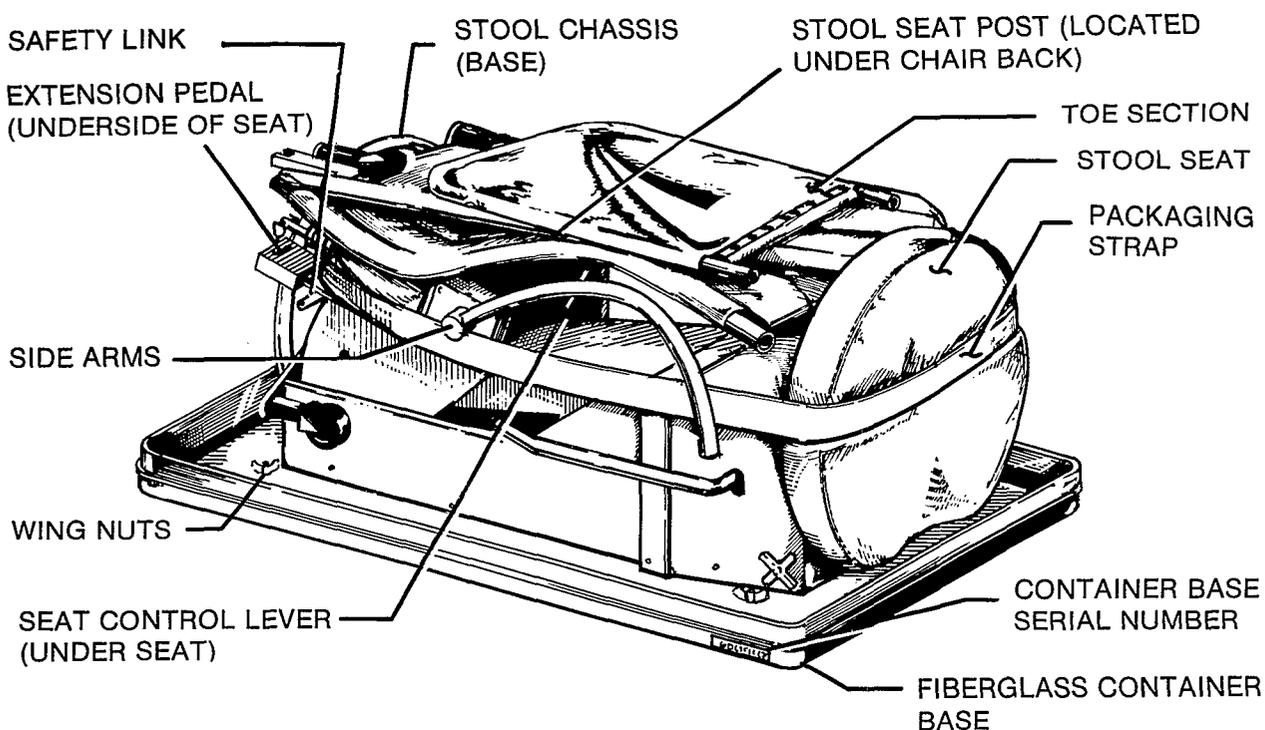

Figure 3. Packaged Position
### A. UNPACKING and ASSEMBLY (Refer to figures 3 and 4)
1. Release the ten (10) spring clamps on the exterior of the fiberglass container.
3. Remove the strap (figure 3) binding the stool seat and base to the chair.
5. Remove the chair toe section (figure 3) and install it in the end of the chair seat frame.
15. Remove the extension pedal from its clips under the chair seat frame and install it on the pump extension (figure 3).
12. Position the stool seat at the front of the chair base and the stool base at the rear of the chair base (with casters toward chair) as shown in Figure 3.
13. Bind the stool seat and stool base to the chair with the web strap (figure 3).
14. Place the toe section on top of the chair back section (figure 3).